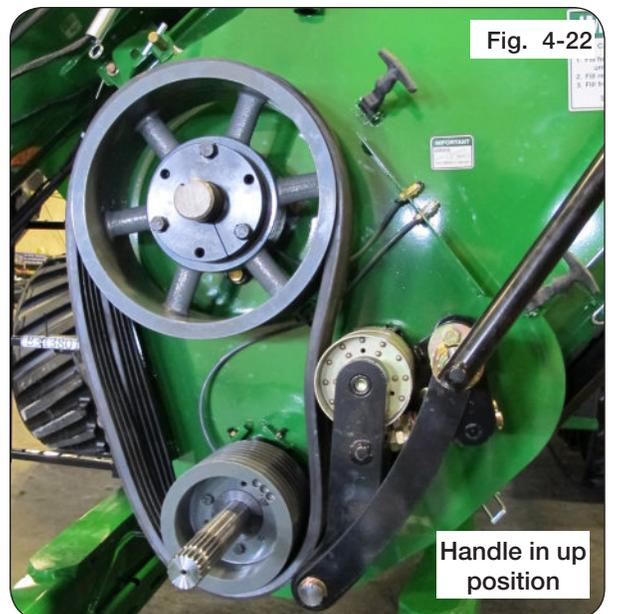

Fig. 4-22
6. Check the lower belt pulley to ensure belt is aligned in their grooves and with the belt tensioner handle, engage the roller/idler linkage against the belt and over-center stop. The compressed spring should now be approximately $1\frac{3}{4}$ " between the washers and generating a force of approximately 480 lbs. against the belt. (Fig. 4-22)
7. Release and tighten belt multiple times to confirm positions and final adjustments. See Fig. 4-22 and Fig. 4-23.